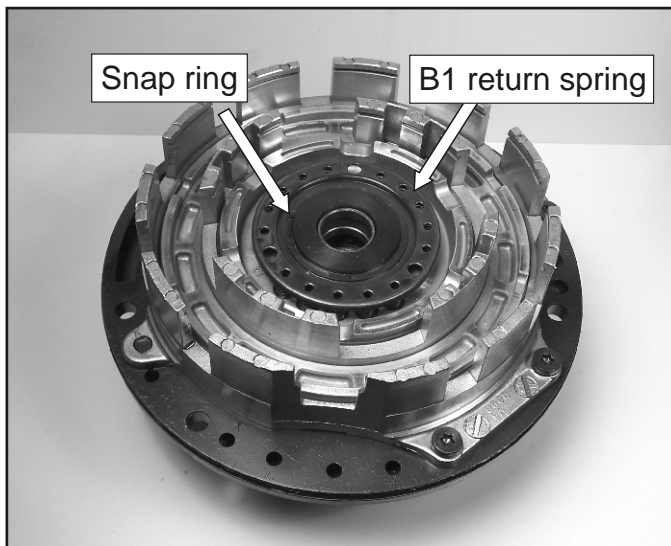

Figure 118
66. Using a suitable press, depress the B1 return spring and assemble the retaining snap ring, as shown in Figure 118.